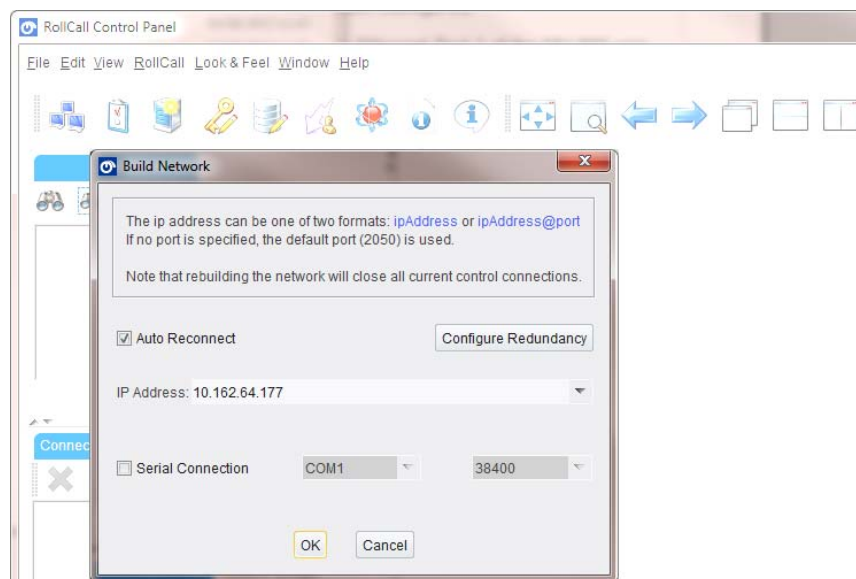

Figure 49 Build Network Dialog
2. Click the **Build Network**  icon in the tool bar to display the Build Network dialog. See Figure 49.